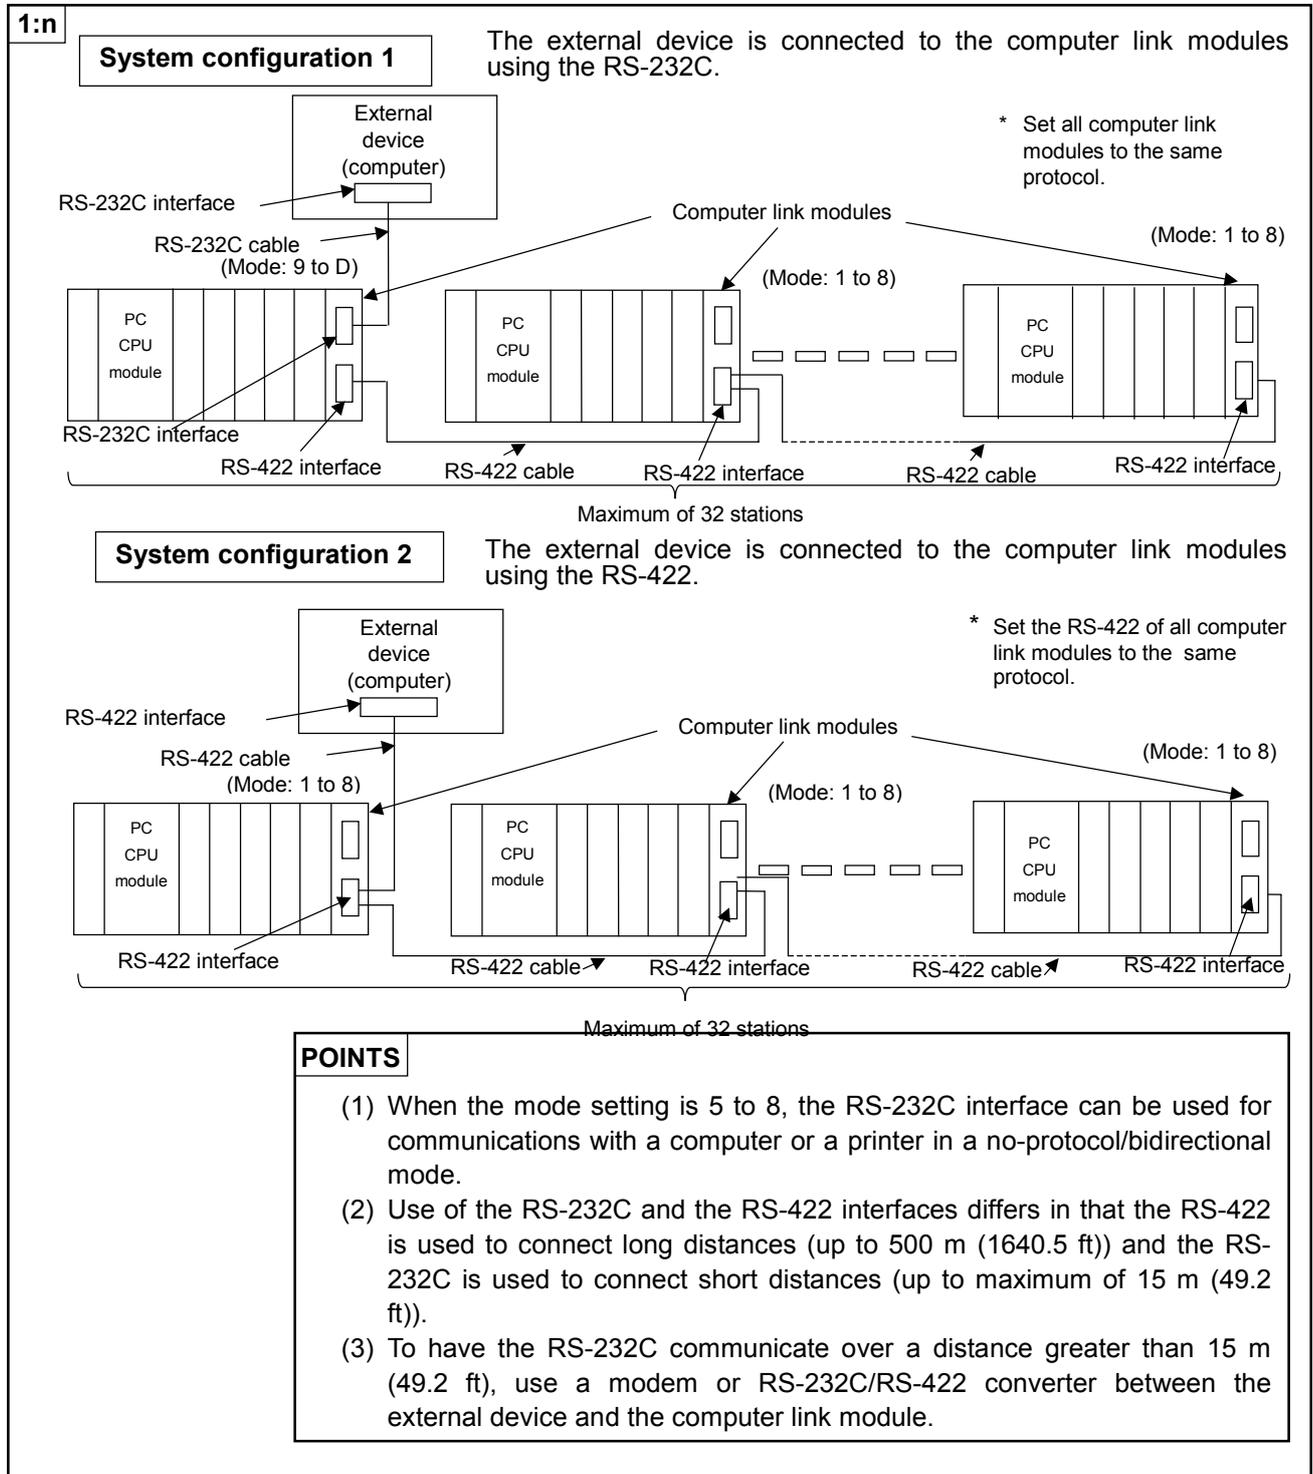

Fig. 2.2 System Configurations (II)
- (1) The system configurations for a 1 : n (up to 32 stations) ratio of an external device to PC CPUs are shown in Fig. 2.2 below.